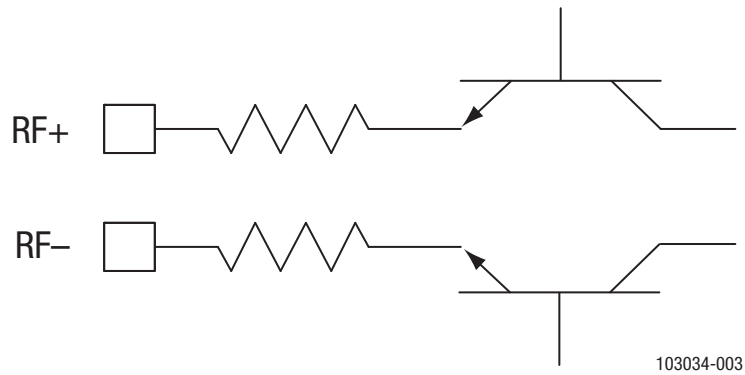
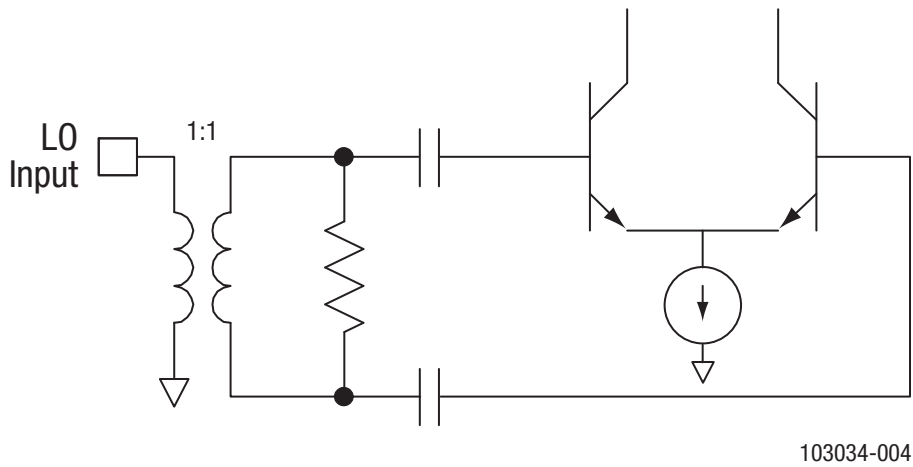

Figure 3. Equivalent Circuit for the RF input
Figure 4. Equivalent Circuit for the LO input
An equivalent circuit for the RF input of the SKY73009-11 is shown in Figure 3. The equivalent circuit for the local oscillator (LO) input is shown in Figure 4. An internal balun is used to convert the single-ended LO input into a differential signal before being buffered inside the device.